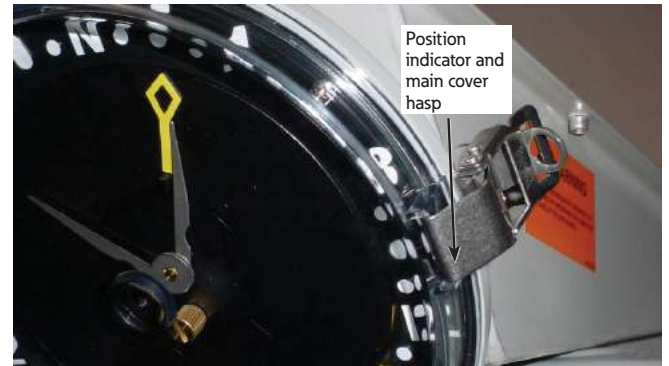

Figure 2. Position indicator hasp
1. To remove the main position indicator cover, unlatch the hasp. See Figure 2.